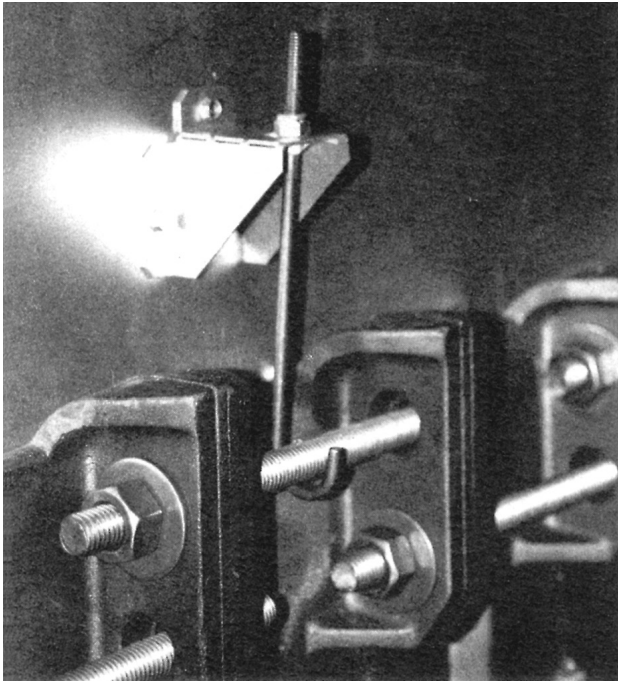

Figure 14: Left Side Canopy Intermediate Bracket
2. Attach the two (2) canopy brackets to the front end cap of canopy with four (4) #10 x 1/2" sheet metal screws each.
10. Attach either the rear flue outlet damper assembly or rear outlet canopy cover to the canopy with the 5/16" flat washers, lock-washers and brass nuts and tighten securely. Attach the rear flue outlet damper assembly or cover to the back section with the four (4) 5/16" flat washers and cap screws and tighten securely.
12. On the longer canopy sizes, Intermediate Mounting Brackets are provided, two (2) are required on sizes V907A thru V909A and four (4) are required on sizes V910A thru V912A. Refer to Figures 14 and 15.
- b. Secure brackets to both sides of canopy with three (3) #10 x 1/2" sheet metal screws per bracket.
- c. Secure canopy left side bracket(s) with appropriate canopy 'J' bolt(s). Insert threaded end through holes in brackets and hook 'J' bolt on center section draw-up rod (hooks should face outward). Secure canopy with 5/16" flat washers, lock washers and brass nuts. See Figure 14.